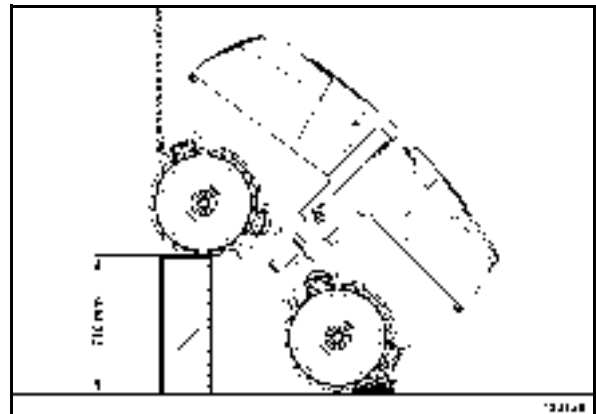

Fig. 107
- Lift the machine up and support it safely (Fig. 107).
- Jack up the opposite side of the machine and secure it adequately (Fig. 107).
- Check the tightening torque of the central screw on all 4 drive hubs (Fig. 107).